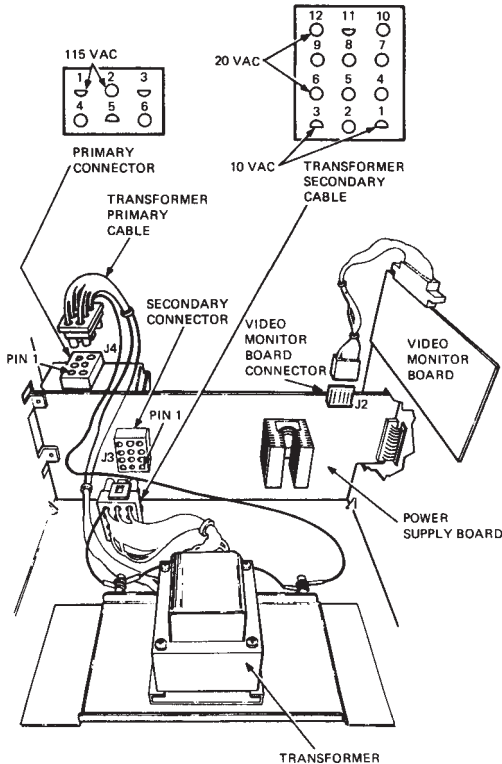

Figure 1-5 Transformer and Power Supply Board Connections
3. Disconnect the transformer primary cable from the power supply board (Figure 1-5).
5. Use your VOM to check the ac voltage across pins 1 and 2 on the power supply board primary connector (Figure 1-5). You should obtain an ac voltage reading of about 115 Vac (U.S.) or the applicable wall outlet voltage. You can compare this voltage reading to the voltage at the wall outlet.
1. Turn the terminal power off and disconnect the transformer secondary cable from the power supply board (Figure 1-5).
1. With the terminal controller board still removed, turn the terminal power off and disconnect the video monitor board cable from the top of the power supply board (Figure 1-5).